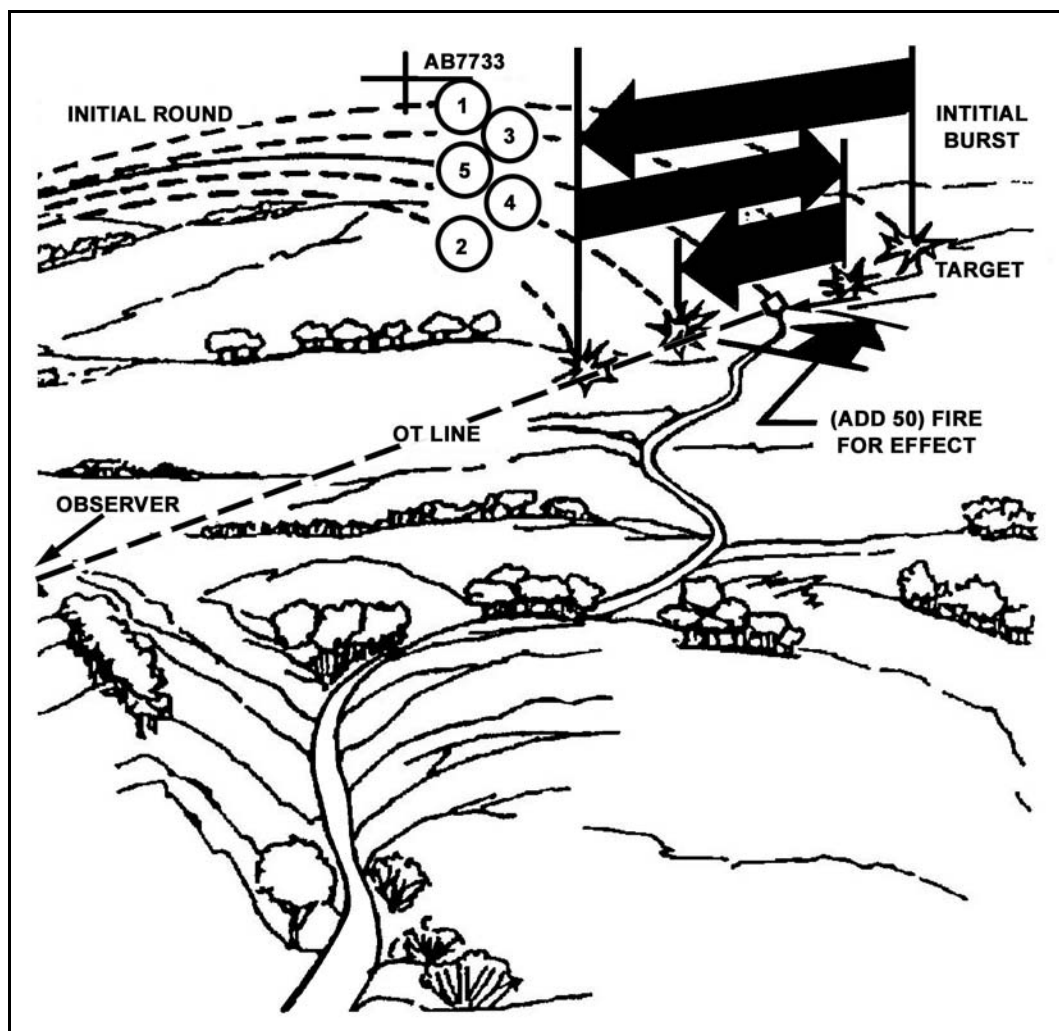

Figure 8-11. Successive bracketing technique.
- (1) **Bracketing.** Bracketing brings fire on a target. Time is important, especially while targets move or seek cover from fire. Accuracy of data and speed of adjustments determine the effectiveness of the fire. To reduce adjustment time, the observer tries to bracket the target with the first two or three adjusting rounds.
(2) **Successive Bracketing.** The observer calls FFE when a range correction brings the round within 50 meters of the adjusting point. He also calls FFE when the firer splits a 100-meter bracket; for example, “Drop 50, fire for effect.” This technique is called successive bracketing (Figure 8-11). When bracketing, the observer uses the following guide to determine his first range correction: